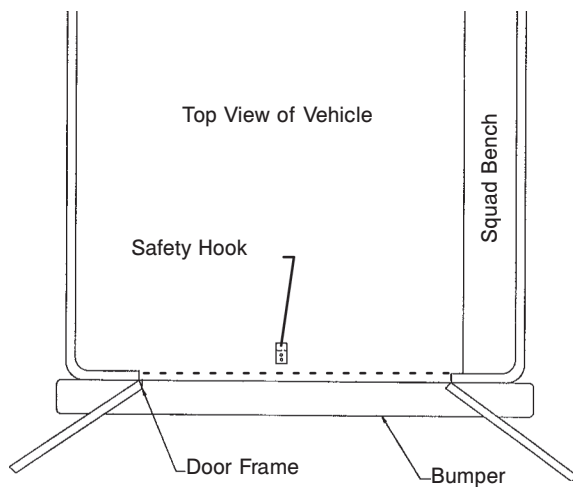

Figure 13 - Safety Hook Placement
4. Mark the position of the safety hook on the patient compartment floor. The safety hook should be installed as close as possible to the rear of the vehicle while allowing the vehicle doors to close and checking that the load wheels always remain on the patient compartment floor (i.e., wheels do not roll off the door sill when the cot safety bar engages the safety hook) when the cot is loaded and unloaded from road and/or curb height (Figure 13).